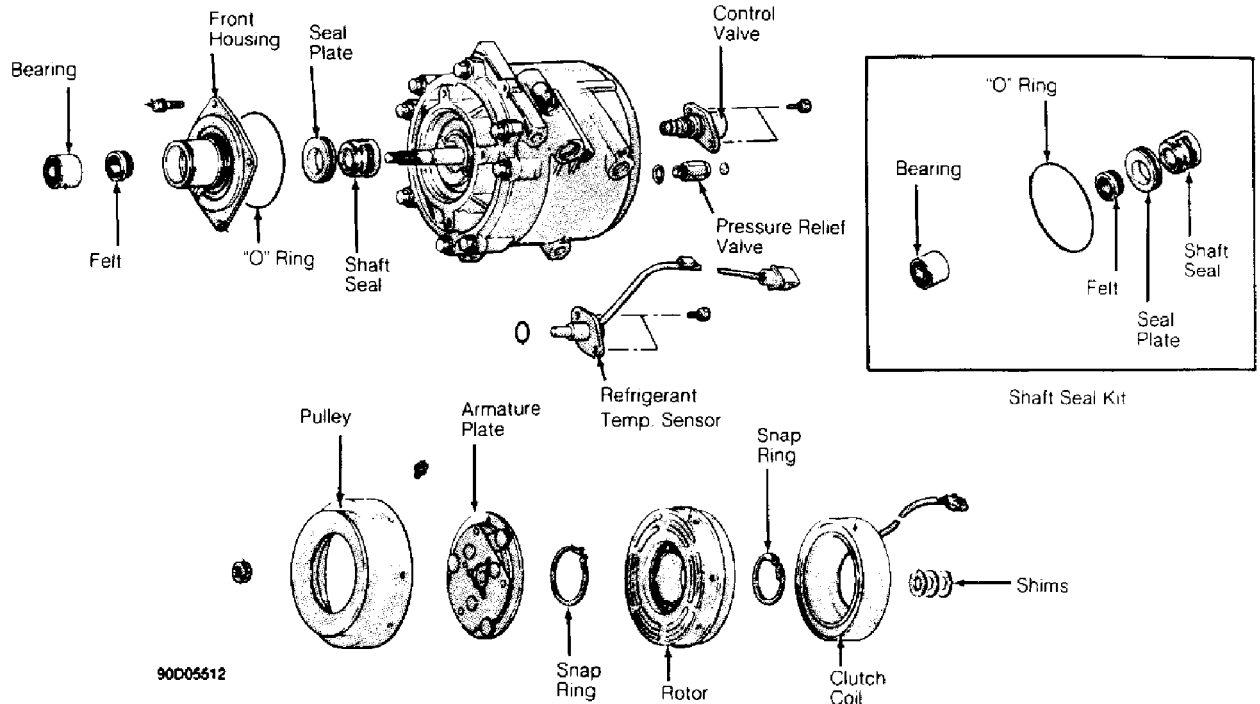

Fig. 5: Harrison R-4 Radial Compressor
shaft key and retain for assembly. See Fig. 5.
2) Using Seal Installer (J-33011), install "O" ring and coat with refrigerant oil. Coat seal seat with refrigerant oil and install using seal seat remover/installer. Install snap ring. Install dust seal (if supplied in seal kit). See Fig. 5.